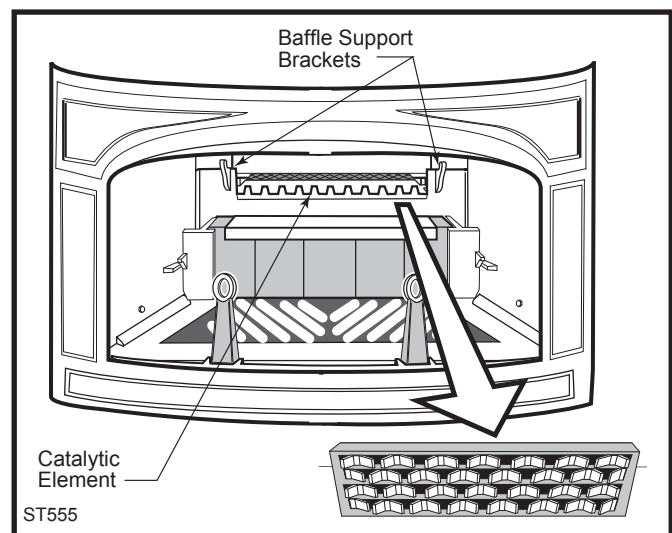

Fig. 42 Lift the baffle off its supports to inspect the catalyst.
1. Lift the throat off its support brackets, and then remove it from the stove and place it on a protected surface. (Fig. 42)